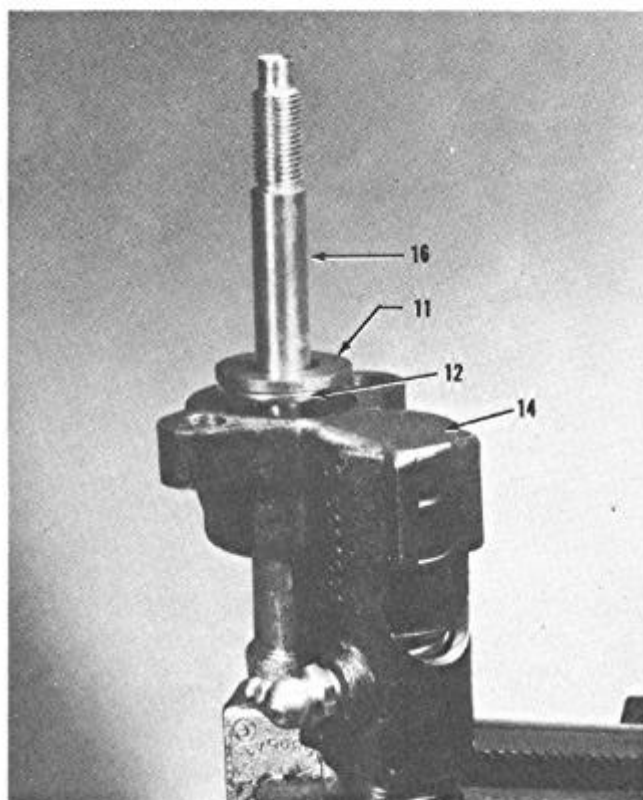

FIGURE 16
3. Place valve return spring (12), and (16) valve washer (11) over the valve shaft and into the steering arm ball housing (14), Figure 16.